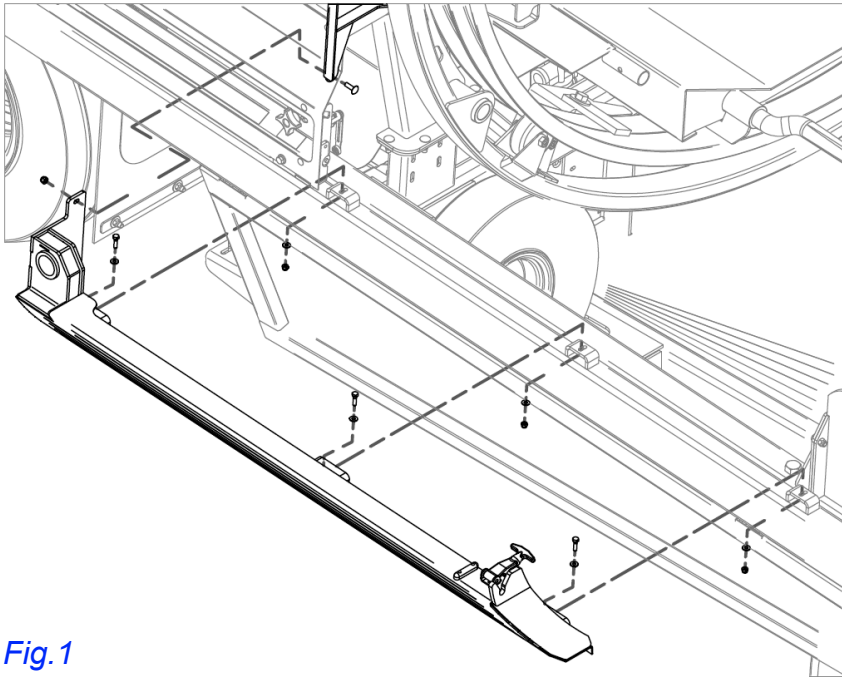

Fig.1
3. Install bottom safety guard mounts using bolts, washers and nuts. Left side shown in Fig.1, right side is the same.